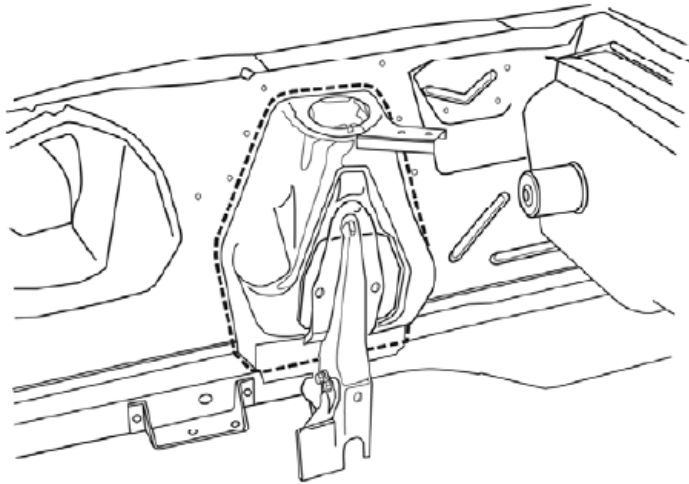

Figure 1- Remove Shock Towers
- 1) Start by supporting the car on 4 jack stands. Place the front jack stands under the frame rails at the firewall, as the front frame will be cut open and will be temporarily very weak. It may bend and not support the car. The car should be sitting at approximately the same angle as it does when not raised with the rocker parallel to the ground. Remove all the old front suspension components. The shock towers will also be removed. See **Figure 1** which shows the cut lines used to remove them. Draw the cut lines around the shock towers with a soap-stone or other marker and cut them out. A plasma cutter works great here, but a torch or saber saw can be used. Cut them loose from the frame rails, also. Remove the lower control arm mounts. When you are done, you should have clean, bare frame rails, ready for the next step.
8) Install the spindles onto the lower ball joints. Use the stainless steel ball joint spacer in the hardware kit and nut as shown in **Figure 1**